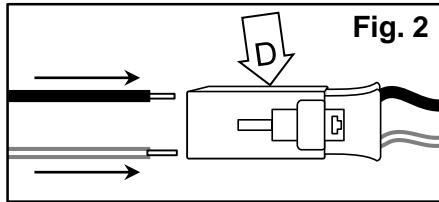

Fig. 2
3. Open the **access plate** (B) and thread the **supply wires** through the **knockout** (C). Insert the **supply wires** into the **quick connector** (D) aligning the **black supply wire** with the **black fixture wire** and the **white supply wire** to the **white fixture wire**. [Fig. 2] Connect the **supply ground grey/yellow wire** to the **fixture ground wire** using a **wire nut**.